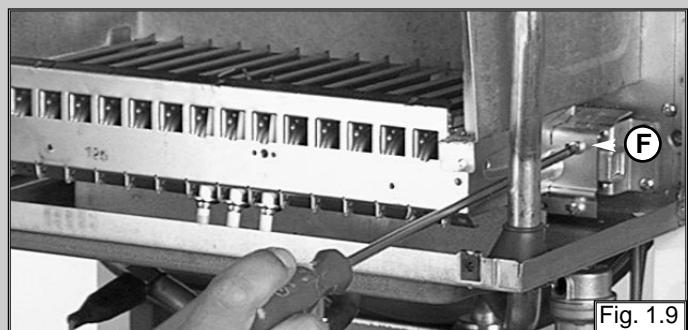

Fig. 1.9
2. Remove the screws "F" of the burner (see fig. 1.9);